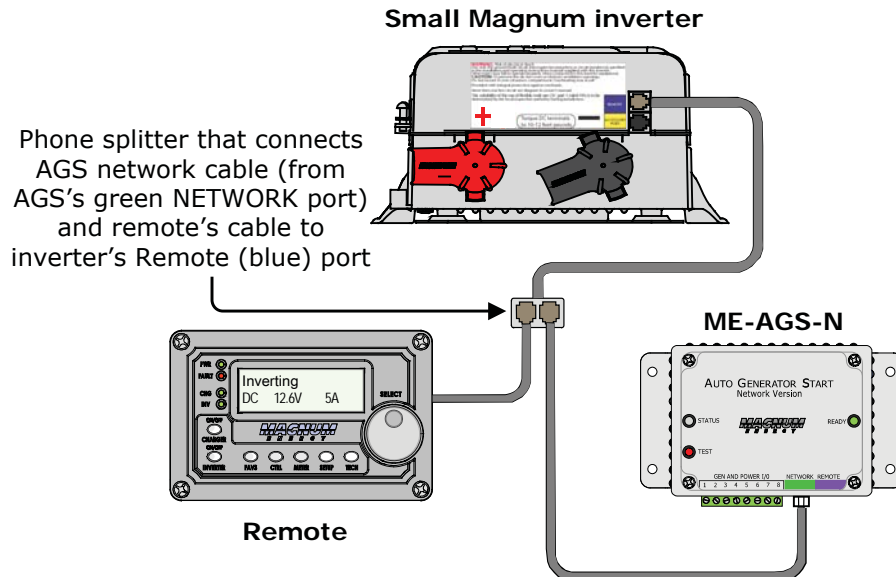

Figure 2-5, Connecting the AGS to a Magnum Inverter (Small)
- **Small inverter (MM/MMS Series)** – connect the other end of the communication cable to a phone splitter, and then connect the splitter to the REMOTE (blue) port on the small Magnum inverter (see Figure 2-5); or,